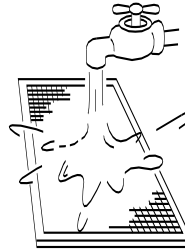

Fig. 2
- The air-in side should be face down when using water. (See Fig. 2)